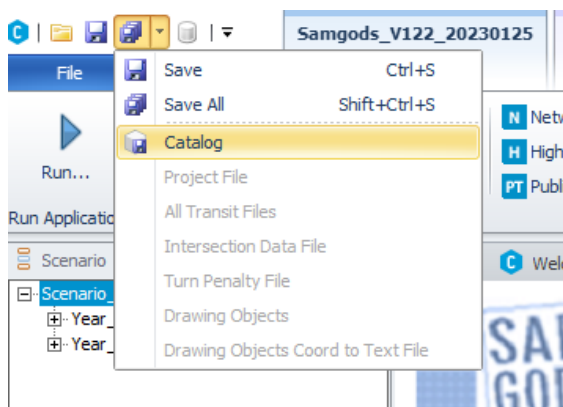

Figure 5 Save the catalog file in the graphical user interface in Cube
- f) Save the model catalog clicking on save in the top right corner, see Figure 5.
* To properly set the values for the catalog keys indicated with *, see the information under the Menu Bar; Help -> About (see Figure 5 and Figure 6 below for an example).